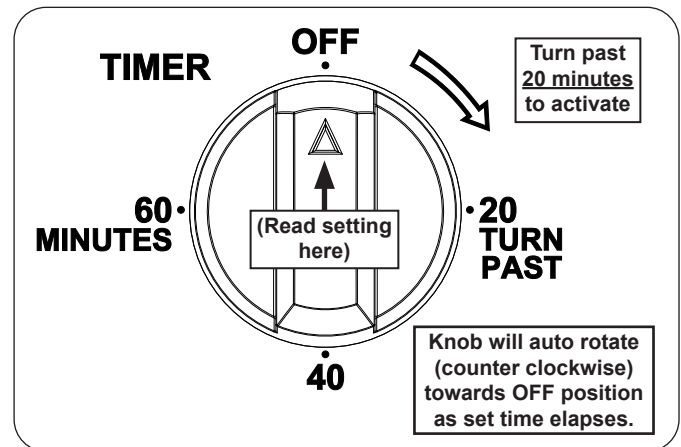

Fig. 33-2 Timer control
4. Set the **TIMER** control knob to the desired cooking time. See Fig. 33-2. See the **SETTING THE TIMER** section below for more details.
Important: When using the timer for periods of less than twenty minutes, you must first turn the knob past twenty minutes (to activate), then return (counter-clockwise) to the desired amount of time. This will ensure proper timer operation. See Fig. 33-2.